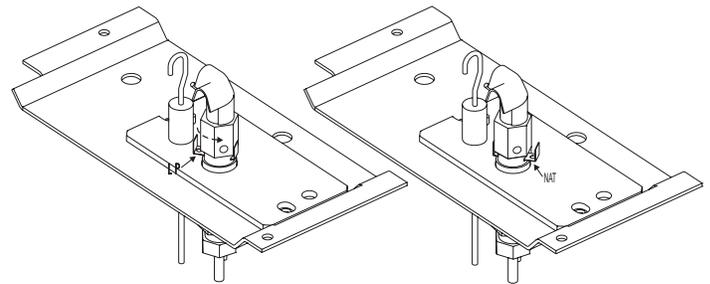

Figure 11
11. Using a 7/16 inch open wrench, loosen pilot body by slightly turning counter-clockwise. Slide orifice bracket to other side and tighten pilot body clockwise. **See Figure 11.**